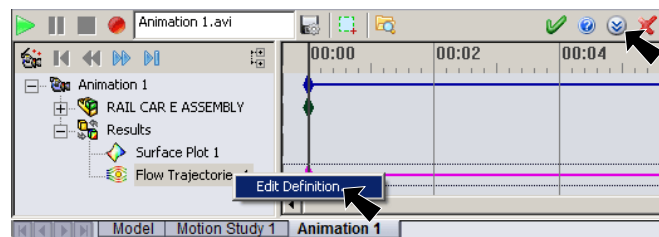

Fig. 35
Step 2. At the bottom right of the display in the animation control panel, click **Expand**  to expand the panel, Fig. 35.
Step 3. Click **Play**  in animation control panel, Fig. 35.
Step 4. **Right click Flow Trajectories 1** in the Animation tree and click **Edit Definition**, Fig. 35.
Step 6. Click **Play**  in animation control panel, Fig. 35.
Step 7. Experiment with other Flow Trajectories setting. To change setting, **right click Flow Trajectories 1** and click **Edit Definition**, Fig. 35.